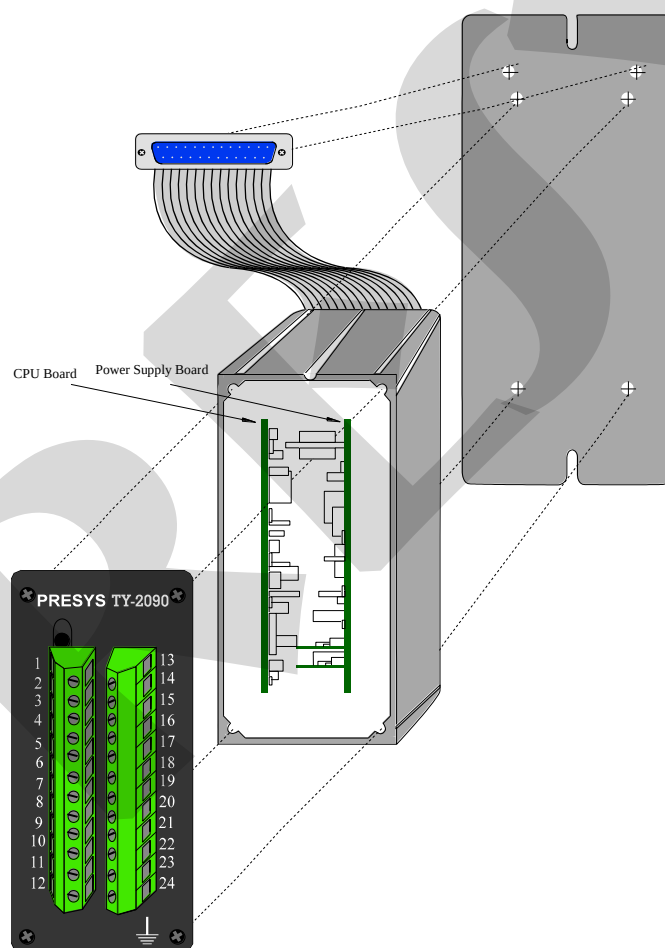

Fig. 20 - Transmitter Dismounting Scheme
i) Remove all screws indicated by a dashed line according to figure 20 below, totaling 10 screws.